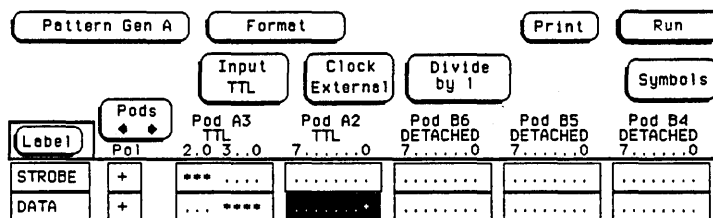

Figure 3-19. Channel Assignment Field
- h. Touch channel assignment field for the selected output pod. See figure 3-19.